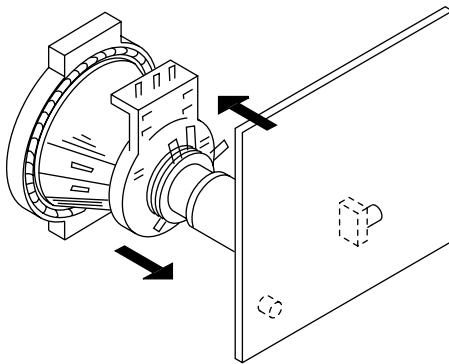

Fig. 3-1
(See Figures 3-1 through 3-3.)
- Move the deflection yoke forward and adjust so that the entire screen is red. (See Figure 3-1.)